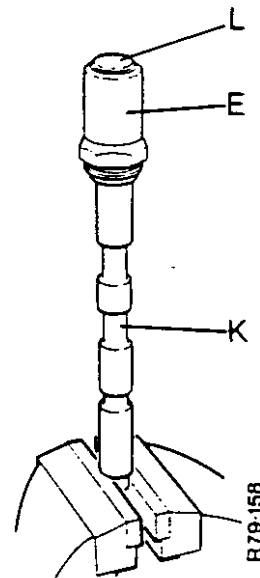

FIGURE 49. DISASSEMBLY OF THE THROW-OUT MECHANISM
4. Carefully hold the spool in the vice as shown in Figure 49. Do not hold the spool on a diameter.